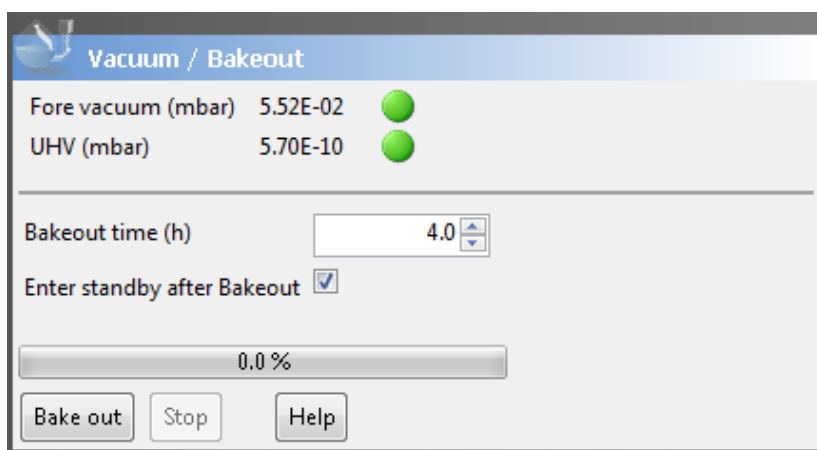

Figure 5-6. Vacuum / Bakeout window
3. Enter the desired baking duration (in hours) into the spin box. The range is 4 to 30 hours. See Figure 5-6.